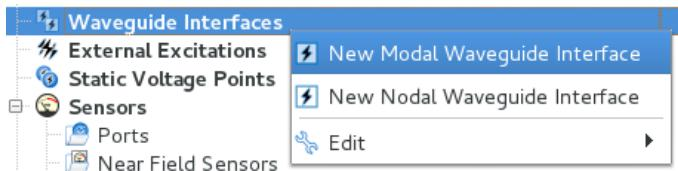

Figure 5.17: Waveguide Interfaces Project Tree Location
- Locate the WAVEGUIDE INTERFACES node in the PROJECT TREE. Right click on WAVEGUIDE INTERFACES and choose NEW MODAL WAVEGUIDE INTERFACE as shown in Figure 5.17. A waveguide interface editor will be shown in the GEOMETRY WINDOW.